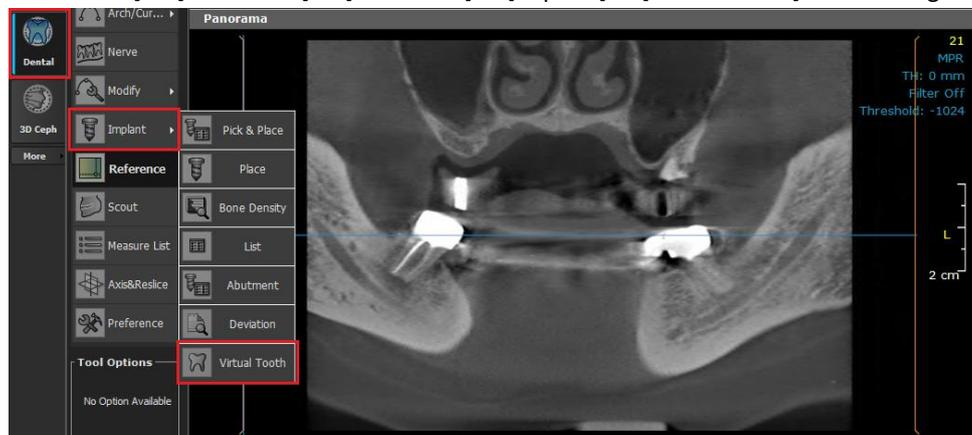

Fig. 92 Method in how to generate the virtual tooth
**Virtual Tooth.** When generating a virtual tooth, it is possible to adjust size and position. This properties that are advantageous when planning the insertions site of an implant. Click [Dental Module] -> [Dental Tab] -> [Task Tools] -> [Implant] -> [Virtual Tooth] as below Fig.92.